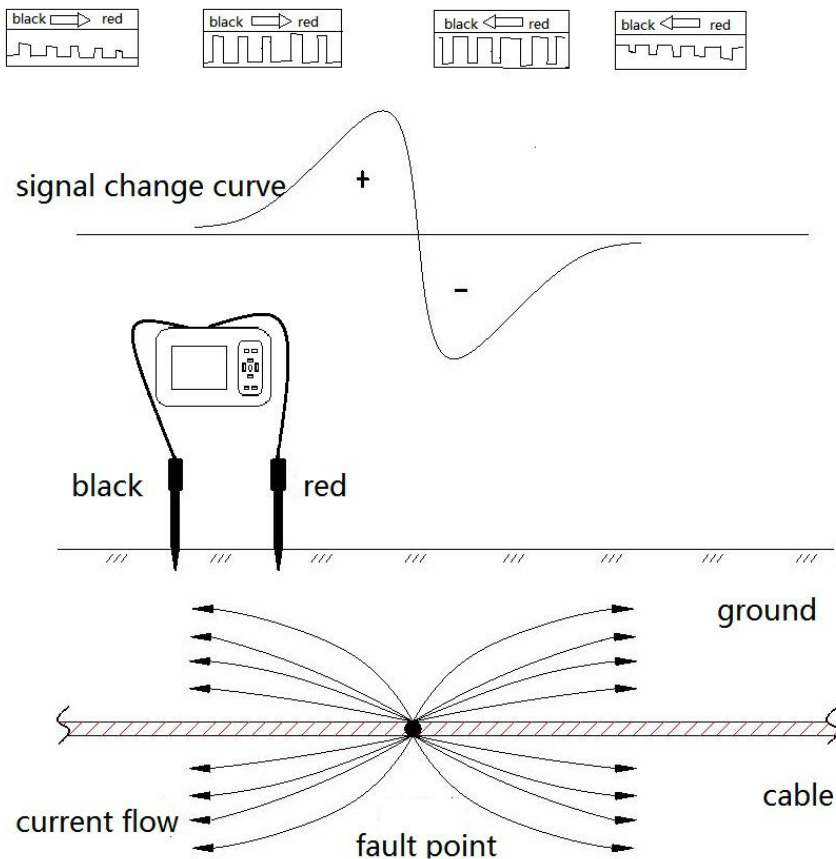

Fig.8 Step voltage pinpointing reference
Press the power switch for more than 1 second, power on the FLC-908D, Insert the probe into the soil near the fault cable (do not hold the probe with your hand), press the RESET key, and observe the signal waveform of the FLC-908D LCD display. If the waveform amplitude is small, the gain should be turned up. Then observe the signal waveform of the FLC-908D LCD display until the gain is adjusted properly. Observe the arrow indicating the direction of fault. Then move forward about 10 meters along the direction indicated by the arrow to continue the measurement. When the FLC-908D display signal is strong and the arrow direction is reversed, it means that the fault point has been crossed. Shorten the moving distance and look back carefully for the point where the direction of the arrow changes and the signal is strong, which is the fault point. In the pinpointing process, if the signal amplitude displayed is very small, the direction indicated by the arrow will change from left to right. The measuring point is far from the fault point, so it can continue to move forward for measurement. Or increase the signal gain over a period of time, the direction indicated by the arrow will be stable. The fixed-point process is shown in Figure 8.
3.2.4 HV signal rod Fig.8 Step voltage pinpointing reference pinpointing